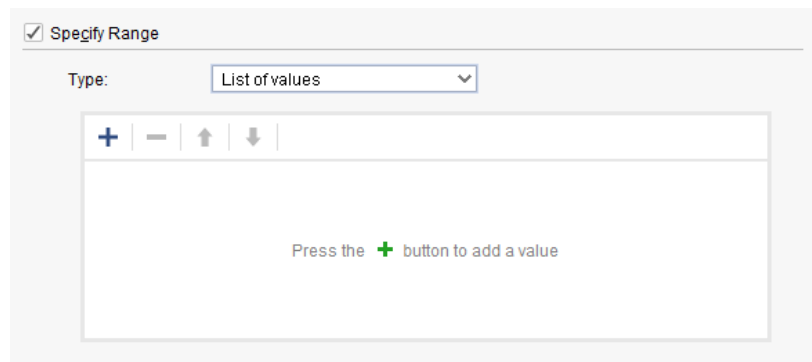

Figure 4-13: List of Values Restriction
- **List of values:** This selection limits the value choices for the parameter in a predefined list. The list box defines the valid list of values for the parameter, as shown in Figure 4-13.